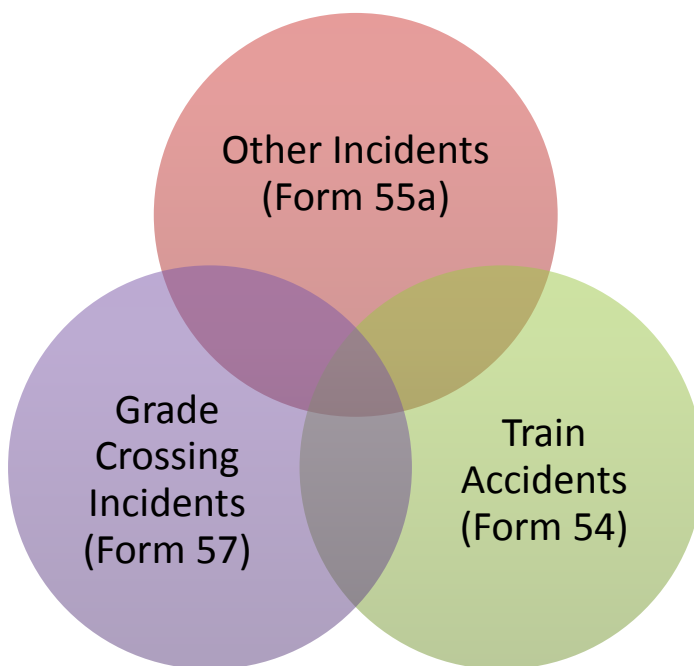

Figure 1: Accident/Incident Reporting Data Environment and Overlap
Using the following formula and order of operations, accidents and incidents can be computed in a way to eliminate double counting caused by the overlapping segments seen in Figure 1 above.
- a. This counts the entire circle for form 57s in Figure 1
- a. This counts the circle for form 54s in Figure 1 while removing the overlap between it and the circle for form 57s (**Type=7**)
- a. This counts the circle for form 55a's in Figure 1 while removing the overlaps between it and the other two circles (**cas57=Y** and **cas54=Y**)